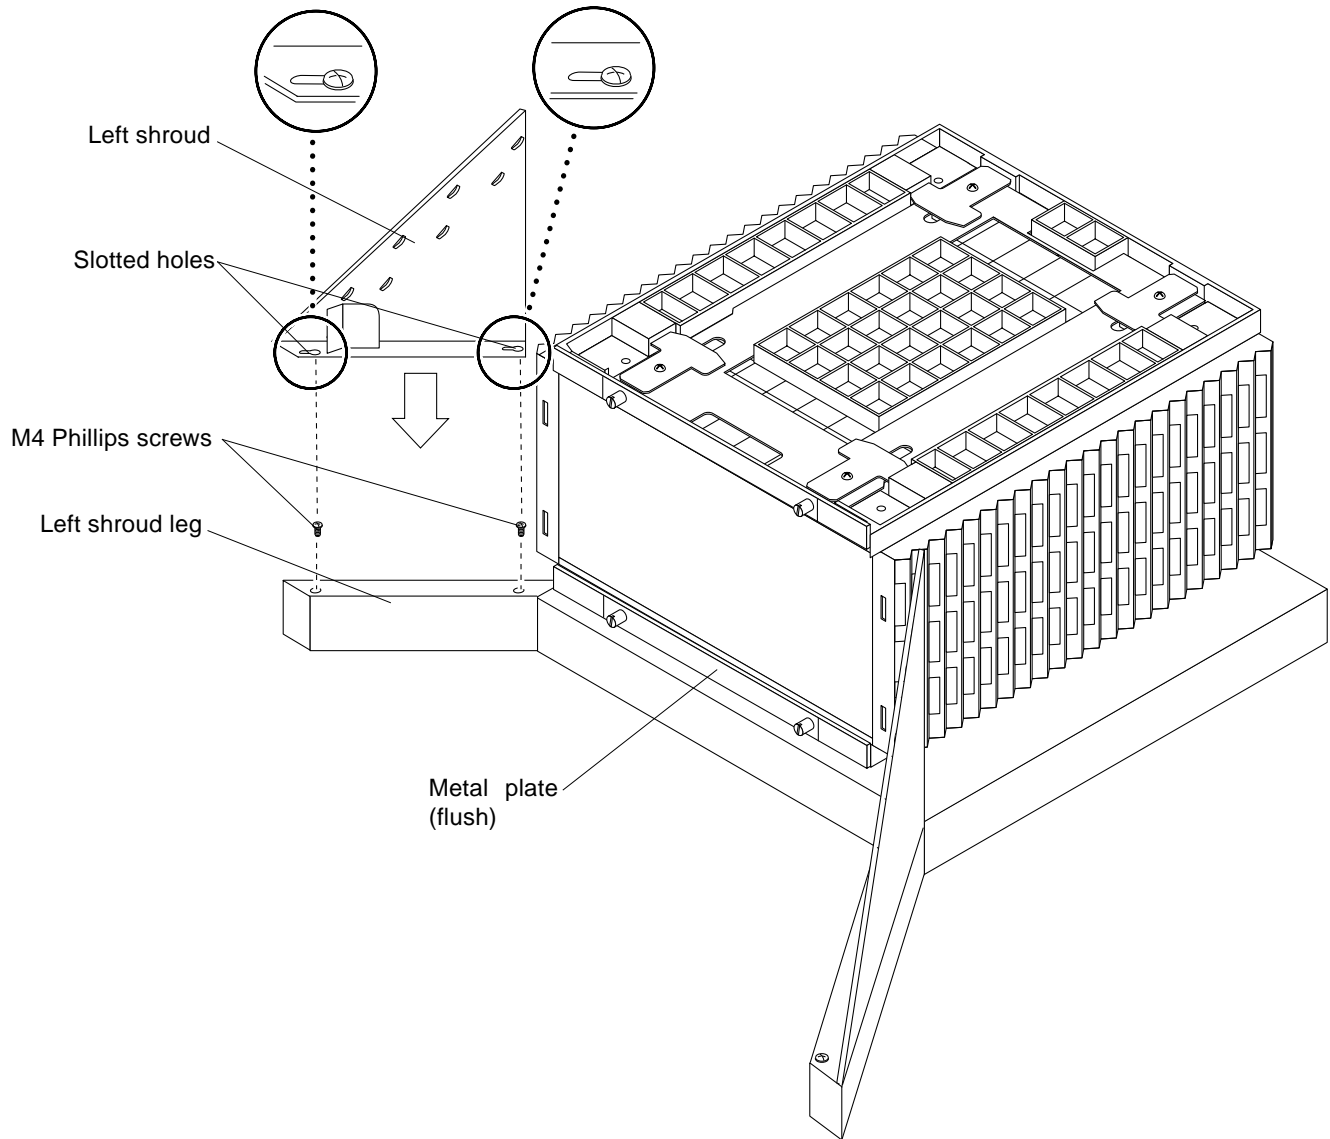

Figure 5 Installing the Left Shroud
8. Ensure that the rear of the chassis is facing the rear of the caster base as shown in Figure 5, and then carefully place the first chassis onto the locking module.
- 11. Loosely thread M4 Phillips screws into the two holes on each shroud leg (Figure 5).**
- 12. Lower the left shroud onto the left shroud leg. Slip the slotted holes in the bottom of the left shroud over the M4 Phillips screw heads installed in Step 11 (Figure 5).**